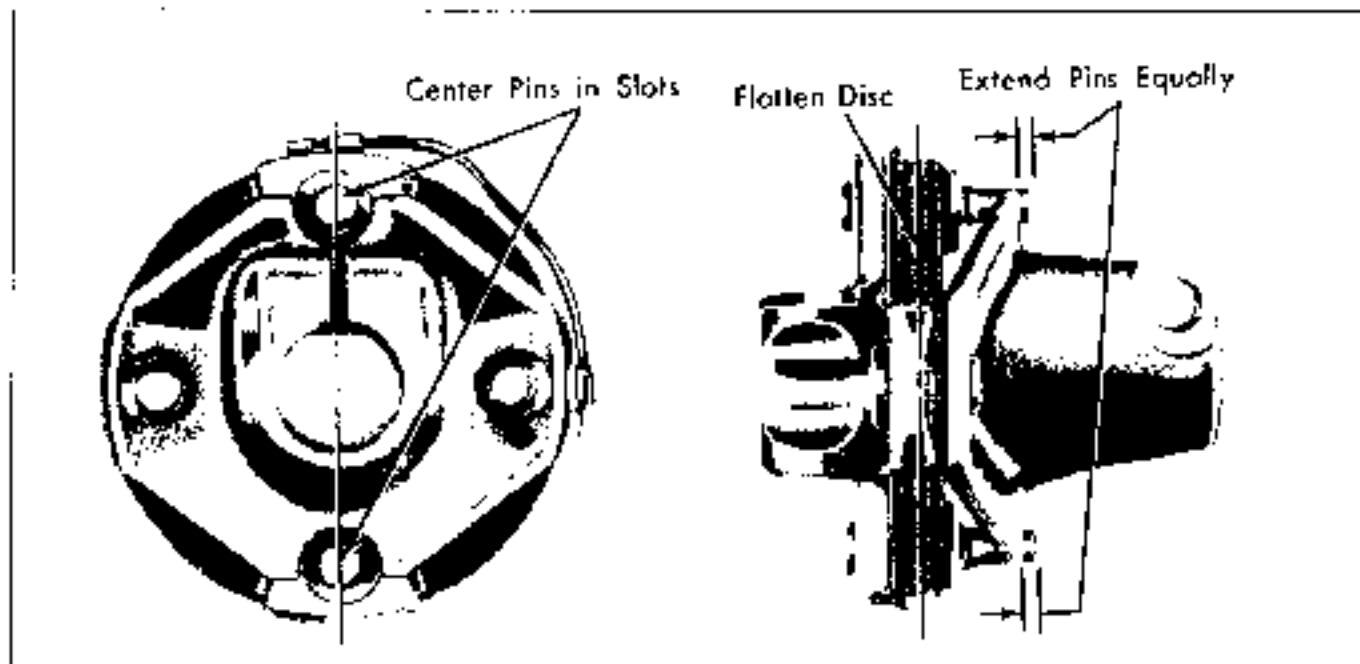

Fig. 9-11 Installing Steering Shaft to Flexible Coupling
1. Remove both attaching nuts securing flexible coupling to steering shaft (Fig. 9-11). On Tempest model with H.O. exhaust manifolds the steering shaft flange must be removed at this time.
2. Attach steering shaft to flexible coupling at steering gear, torque attaching nuts to 20 lb. ft. (Fig. 9-11).